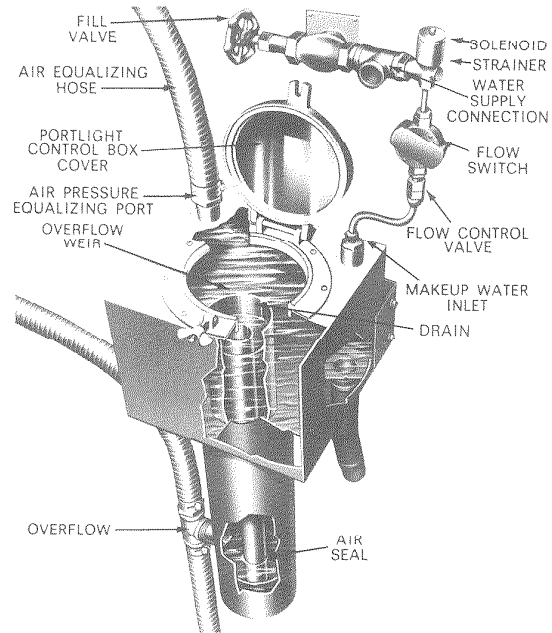

FIG. 9. Cutaway view of Standard Water Level Control Box.
- b. Pour water down control box drain until a constant level is maintained to make a water seal in the bottom of the pipe. (Figure 9.)
- a. Be certain that water level is at the running level weir (Figure 9). Observe frequently through glass portlight in control box top. **DO NOT** open portlight when unit is running because air leakage will alter water level.